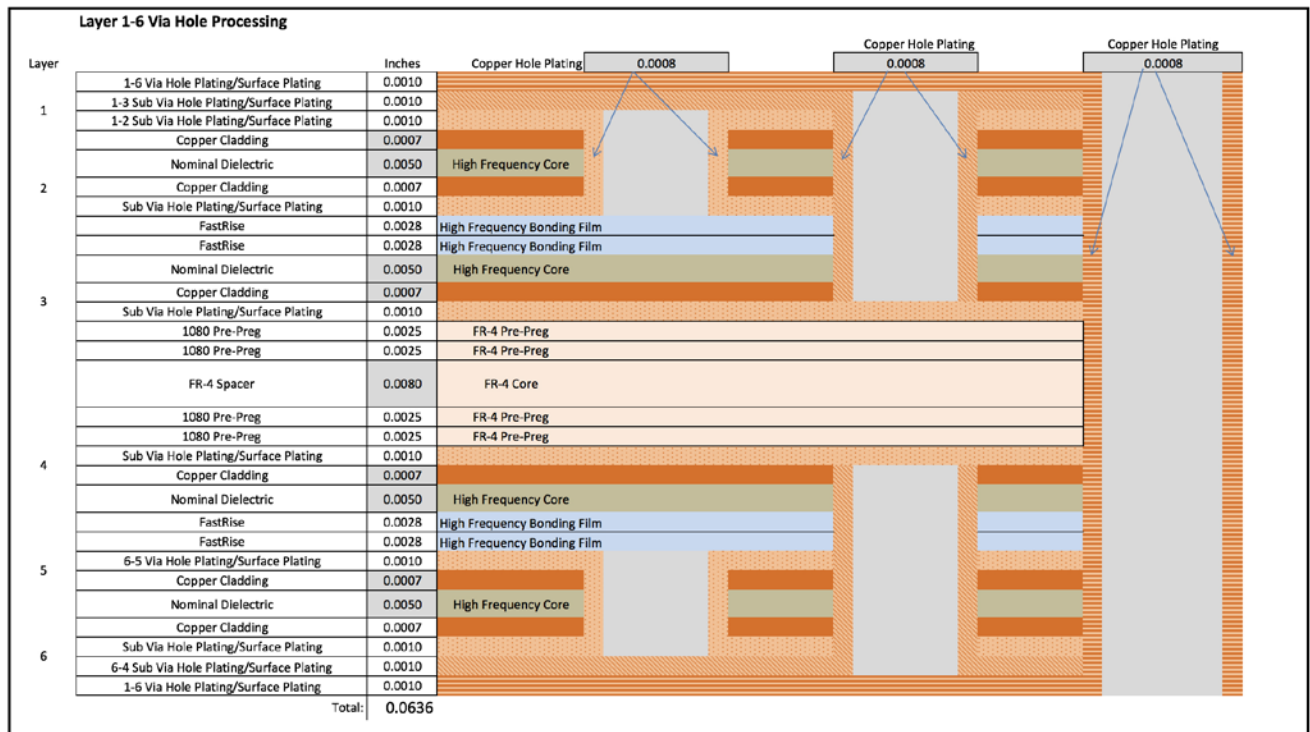

Figure 2: Sequential lamination.
- **Sequential lamination:** A process where the microvias are drilled all the way through a sub-panel of the layers that need to be connected by the via, which could require multiple lamination, plating, filling and planarization operations (Figure 2).